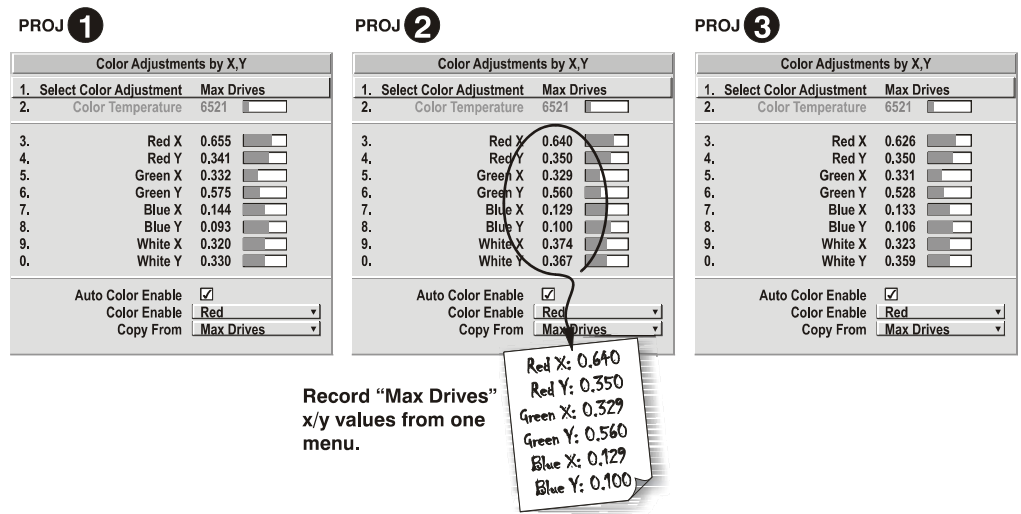

Figure 3.28. Jot Down a Set of “Max Drives” X/Y Values
4. Display the *Color Adjustments by X, Y* menus for all projectors. Each menu shows the x/y coordinates defining the “Max Drives” color gamut for this projector. Write down the values shown in one (any) of the displays. See **Figure 3.28**. Or use the “Copy From” function to copy them into a “User” gamut in one projector.